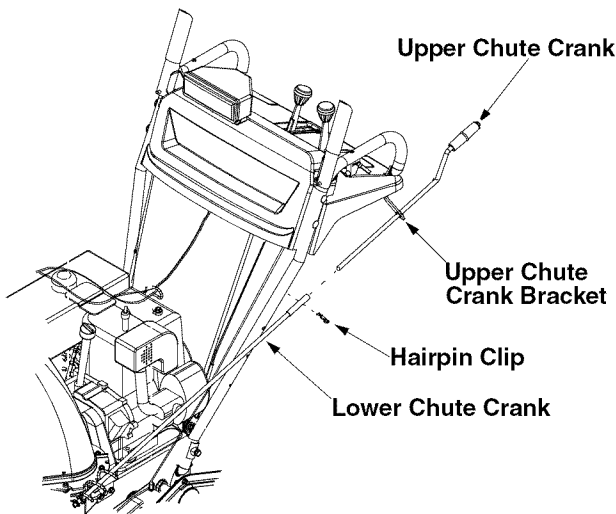

**Figure 3**
- Insert hex cap screws up through chute flange keeper and chute assembly as shown in Figure 3. Secure with hex flange locknuts. Tighten with two 7/16" wrenches. Do not over tighten.